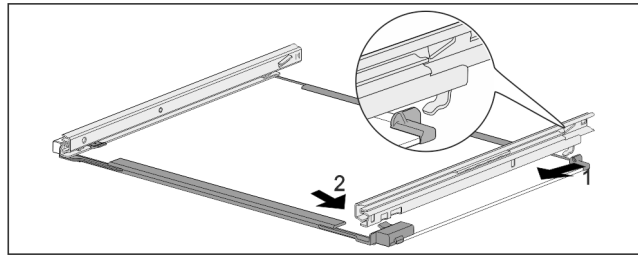

Fig. 169 Glass shelf with rails
- ▶ Hook in rail at the back. Fig. 169 (1)
- ▶ Hook in rail at the front. Fig. 169 (2)